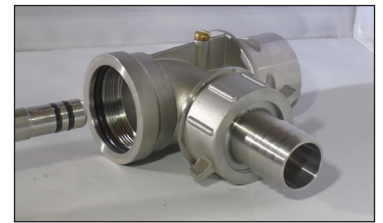

Figure 7 A & B
4. **Inner Tube Removal** - To remove the inner tube, turn the inner tube to unseat the o-rings (item 13) and then pull the inner tube away from the head. See Figure 7 A & B.